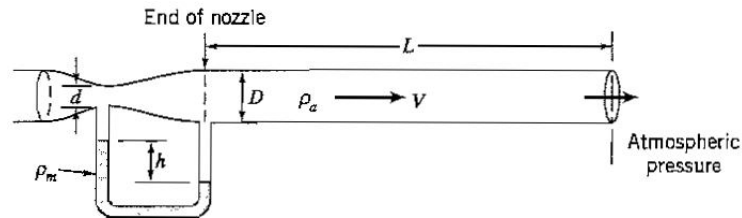

Figure P4.43
4.43 Air of constant density ρ_a flows steadily through a circular pipe of diameter D , which is downstream of a frictionless nozzle of diameter d , as shown in Figure P4.43. Assume